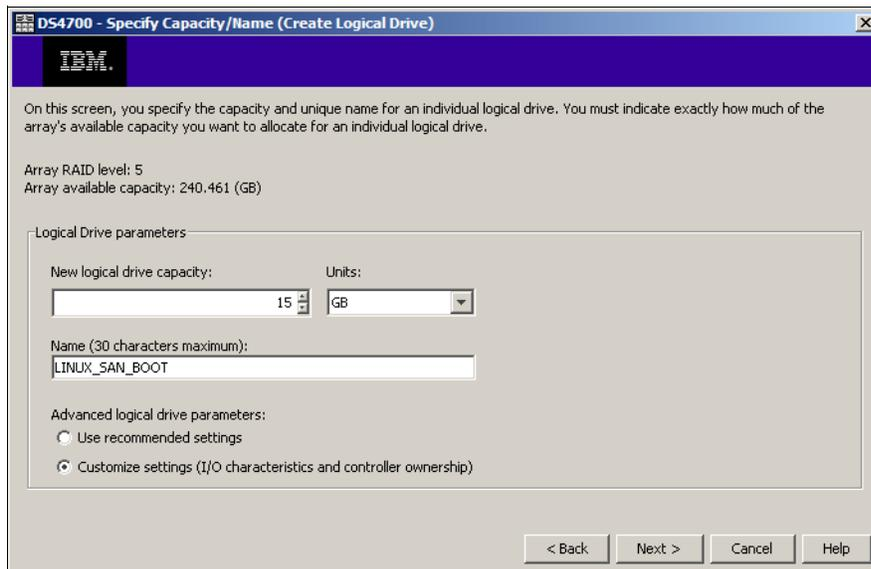

Figure 10-49 Specify Capacity/Name window
2. The create logical drive wizard introduction window opens. Click **Next** to continue. In the Specify Capacity/Name window, enter the size and name of the logical drive to be created. In this example, we create a 15 GB logical drive named LINUX_SAN_BOOT. In the advanced logical drive parameter section, change the radio button to Customize settings (I/O characteristics and controller ownership), as shown in Figure 10-49.